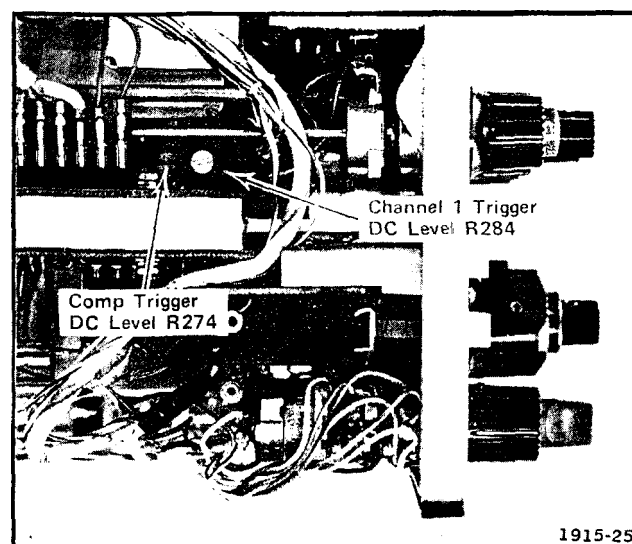

Fig. 5-8. Location of trigger DC level adjustments.
c. ADJUST—Comp Trigger DC Level adjustment R274 (see Fig. 5-8) for a stable display.
- f. ADJUST—CH 1 Trigger DC Level adjustment R284 (see Fig. 5-8) for a stable display